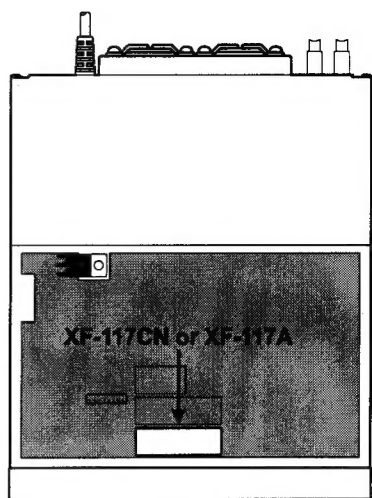

Figure 2
4. Again refer to Figure 2 for the mounting locations for the I.F. filters. Press the filter(s) to be installed into the appropriate slot(s) on the circuit board.